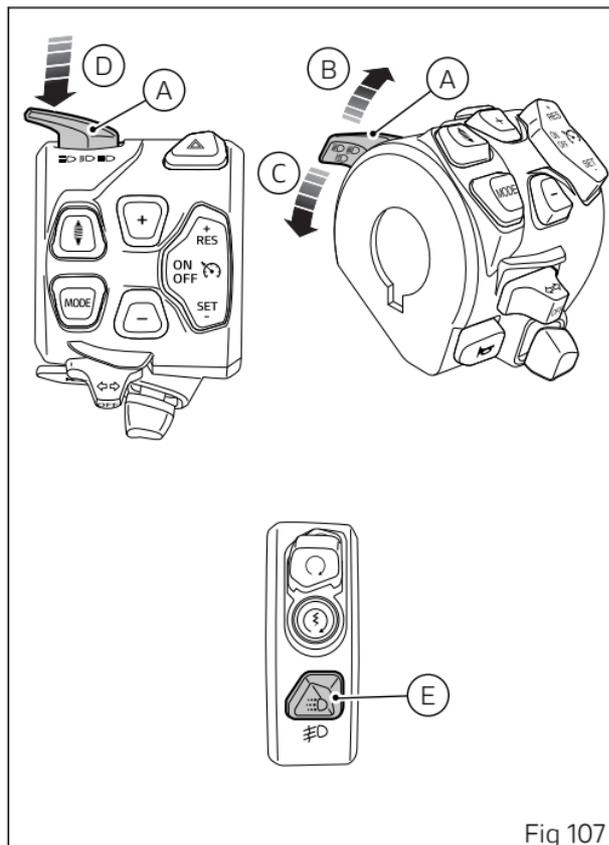

Fig 107
When the DRL is set to "Auto" mode, the corresponding warning light will turn on. If the DRL was set to "Auto" mode, press button (E, Fig 107) to disable that mode and set manual light management. Press again button (E, Fig 107) to re-enable DRL but with control strategy set to "Manual".
If the DRL lights are in this mode, as set through the "DRL" function within the "Setting menu" (page 258) DRL lights will not change their status upon key-on. To switch on or off the DRL lights, it is necessary to press button (E, Fig 107).
- if DRL lights are present, press and hold button (E, Fig 107) for a long time;
- if DRL lights are not present, press button (E, Fig 107).